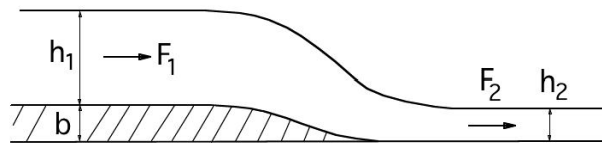

Figure P10.20
10.20 Water flows steadily and smoothly down a ramp of height b in an open-channel flow of constant width, as shown in Figure P10.20. The Froude number at the upstream station is subcritical and equal to F_1 , and the depth at this station is h_1 . Downstream, the Froude number is F_2 , and it is found by experiment that surface waves make an angle of 30° to the flow direction. State all your assumptions.